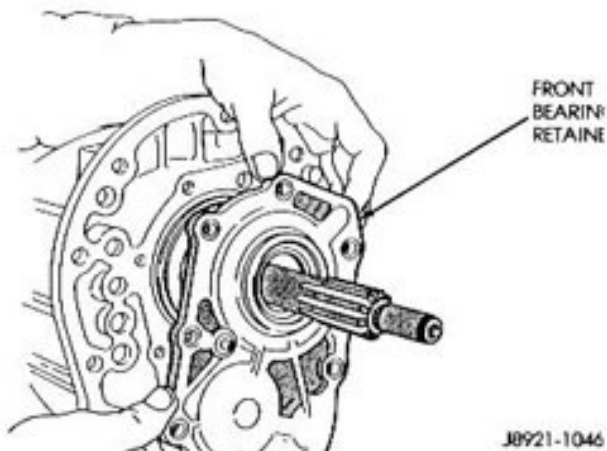

Fig. 16 Front Bearing Retainer Removal
(1) Remove the bearing retainer bolts and remove the retainer (Fig. 16).